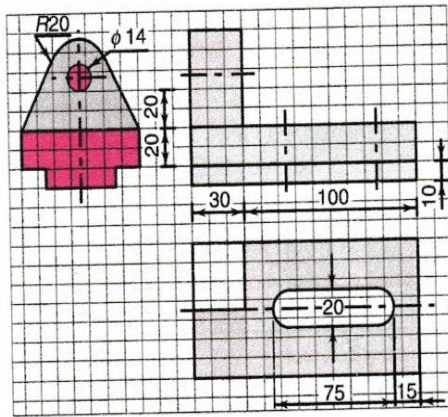

Fig. 5.88 Orthographic views of a adjustable support
**Solution** Refer Fig. 5.88
The required three views are shown in Fig. 5.88.